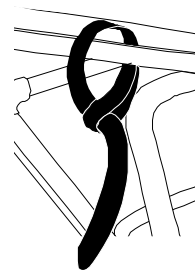

Figure 14 - Attaching Restraint
3. Wrap a restraint piece around main frame and pull tang or receiver through loop at end of restraint (Figure 14).